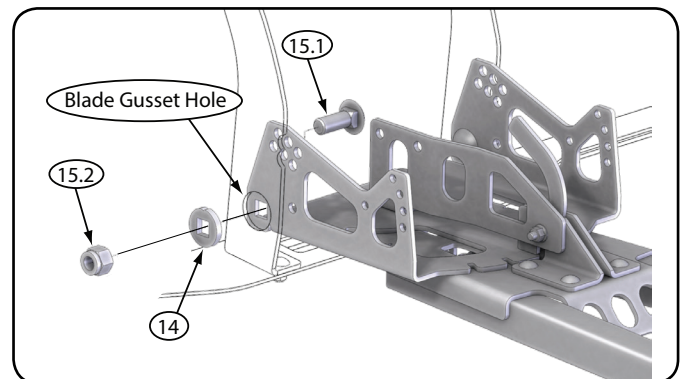

Figure 7 - Pivot Bolt Assembly
5. Place washer bearing (14) into hole in blade gusset and secure blade to tube system by fastening with the  $1\frac{1}{2}$  in. (38.1 mm) carriage bolt (15.1) and lock nut (15.2), as shown in Figure 7. Repeat on right hand side.